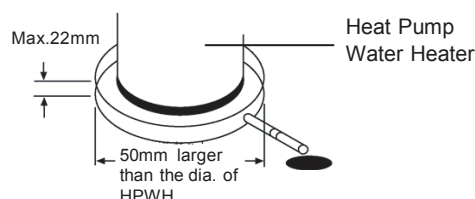

Fig.5-2
- A blockage during drainage may cause water leakage, so is a water collector should be used as shown in Fig 5-2.